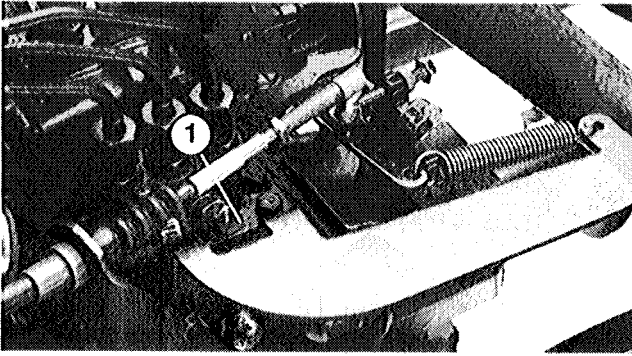

Figure 24
4. Open the air bleed screw on the fuel injection pump (Fig. 24) with a 10 mm wrench.